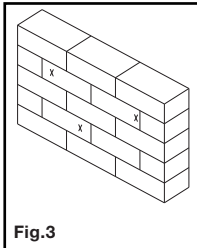

Fig.3
2. While another person holds the wall plate in place, mark three locations on the wall for securing the mount. Mark two locations at the top of the wall plate and one location at the bottom of the wall plate (see Fig. 3).